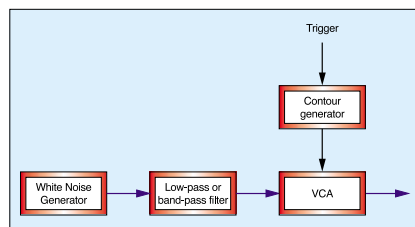

Figure 11: The simplest (and least authentic) way to create a snare drum sound.
► rhythm sounds based on filtered noise. Static low-pass or band-pass filters determined the 'colour' of these sounds, and a VCA and AR contour generator shaped the signal amplitude (see Figure 11, below). This suggests that the simplest synths can generate recognisable percussion sounds, *provided that* they have a noise generator whose output can be treated by a filter and a contoured VCA.